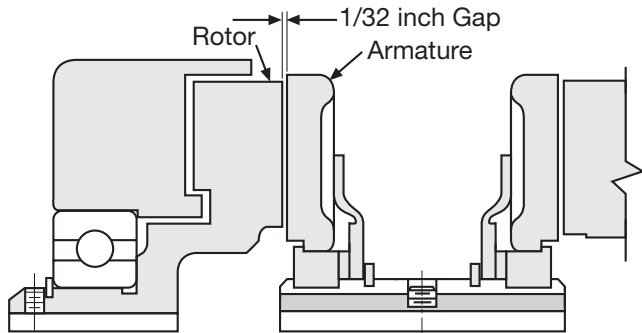

Figure 8
2. Adjust the rotor's position on the shaft to allow approximately 1/32" gap between the faces of the rotor and armature. (Figure 8)